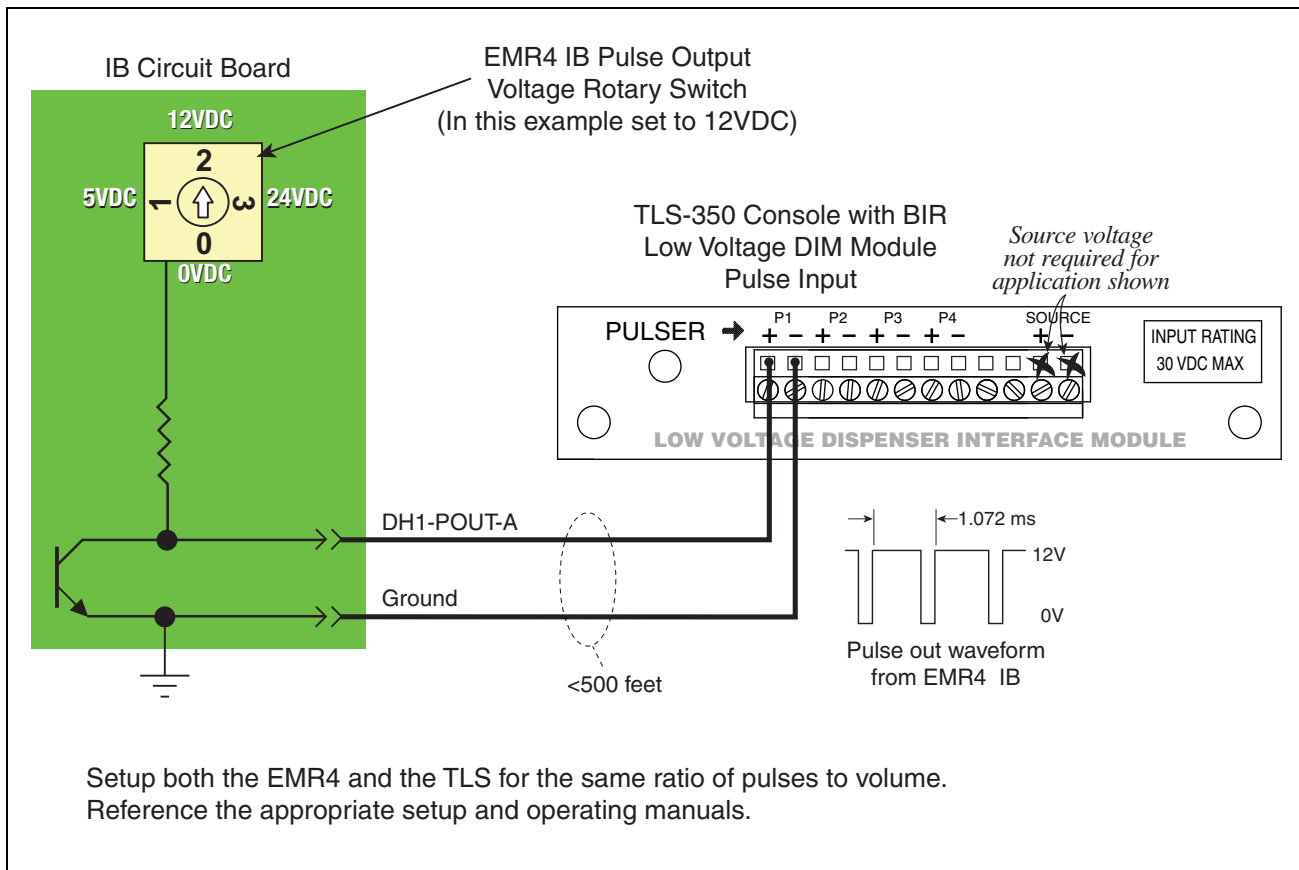

Figure 42. Wiring Pulse Output To A TLS-350 Console
- POUT-1 and POUT-2 are open collector outputs with an internal pull-up resistor (2.4 K Ω). The output voltage can be set to either 5, 12, or 24 volts using the pulse output voltage rotary switch (see Figure 42).